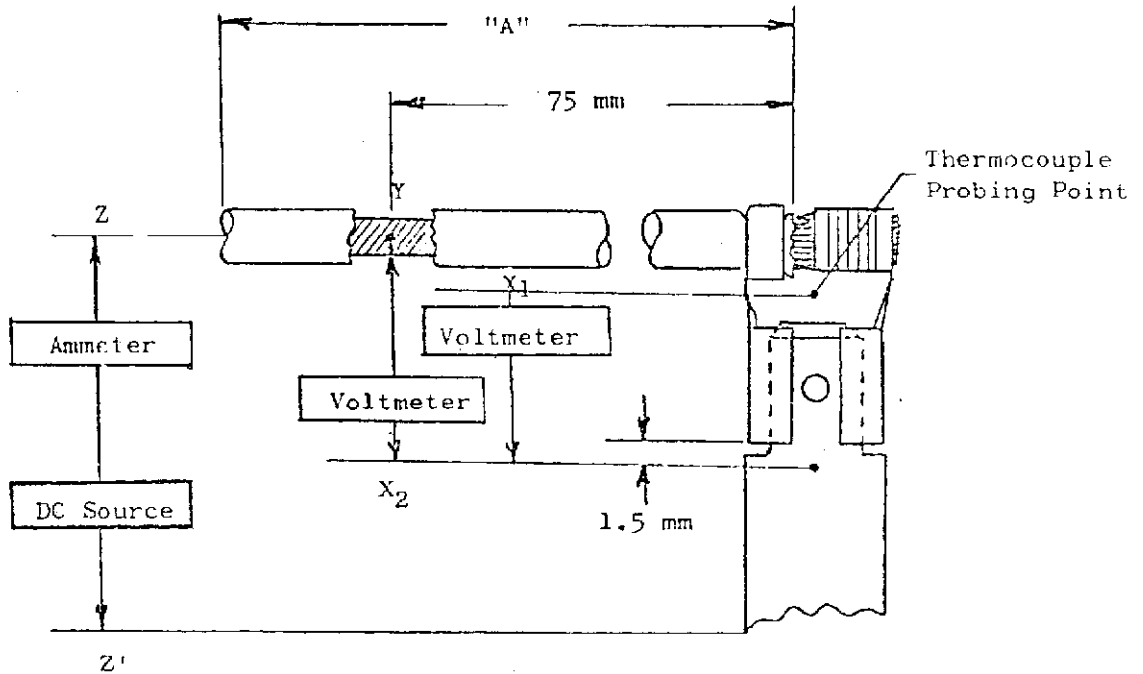

Fig. 1
5.3.1 Millivolt Drop Test Method (Refer to Fig. 1):
Tab-mated receptacle contact shall be tested for measuring millivolt drop and termination resistance of frictional contact area by millivolt drop test method. As shown in Fig. 1, test current power source shall be connected to the points Z - Z', to flow the circuit consisting of receptacle, tab and crimped wire which shall be longer than 90 cm (3 ft. approx.) for sufficient effect of heat dissipation.
Temperature rising of the circuit shall be measured by applying test current load specified in Table 1 with the use of thermocouple across the probing points as shown in Fig. 1, after temperature rising becomes stabilized.